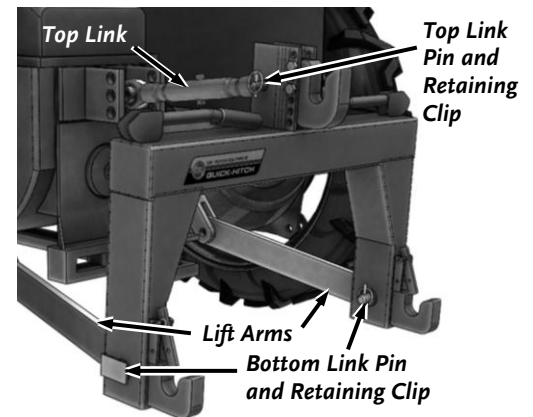

Figure 3
3. Remove the Retaining Clips from the Bottom Link Pins and remove the Bottom Link Pins from the Quick Hitch (**Figure 3**).